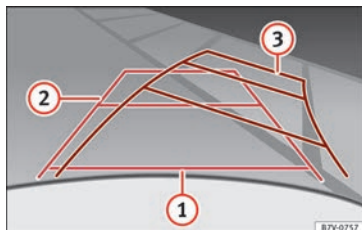

Fig. 216 Display: orientation lines for the parking space behind the vehicle
Meaning of orientation lines displayed on the screen » Fig. 216. All of the lengths of the orientation lines use a vehicle located on a horizontal surface as reference.
- Reverse slowly and turn the steering wheel so that the yellow orientation lines guide you towards the space » Fig. 216 ❸.